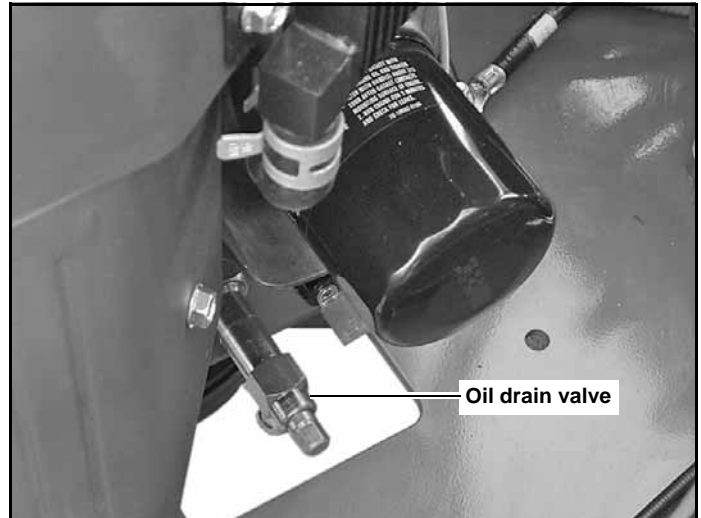

Figure 5-1
1. Locate the oil drain valve on the engine. Figure 5-1,